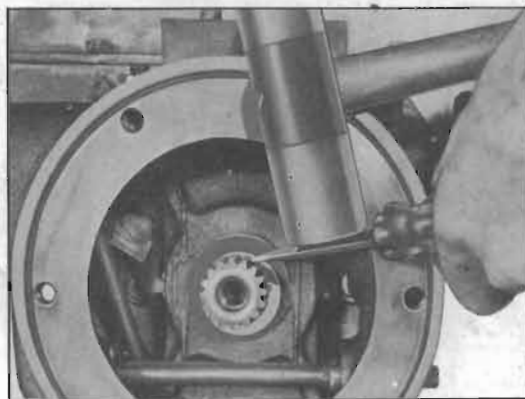

Figure 4-87—Removing Universal Joint Retaining Ring
2. Remove universal joint retaining ring from output shaft, using hammer and large screwdriver as shown in figure 4-87. Use care to avoid nicking output shaft as nicks will damage rear bearing retainer bushing during removal of retainer.